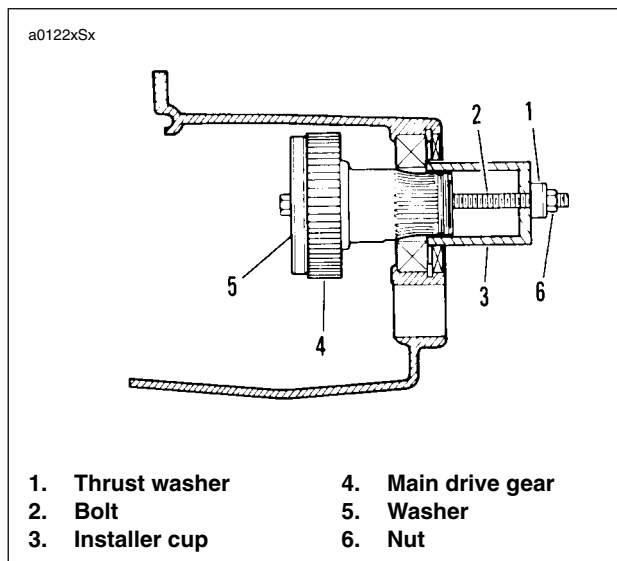

Figure 6-72. Main Drive Gear Installation
2. See Figure 6-72. Use MAIN DRIVE GEAR REMOVER AND INSTALLER (Part No. HD-35316-A) for assembly.
- a. Take bolt (2) and place washer (5) followed by main drive gear (4) over end of bolt.
- c. Insert threaded end of bolt (2) through installer cup (3) and thrust washer (1).
- d. Thread nut (6) onto end of bolt (2). Tighten nut (6) until shoulder on gear (4) bottoms against inner race of bearing.